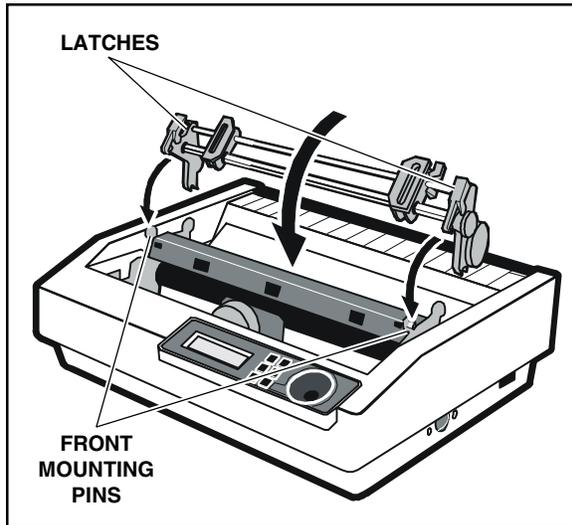

Figure 2-10. Installing the Tractor, Bottom Feed
3. While pushing down on the forms tractor, rotate the forms tractor towards the front of the printer until the latches snap onto the front mounting pins, as shown in figure 2-10.